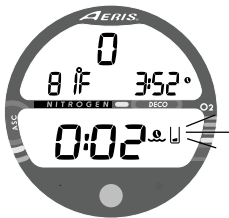

Fig. 8 - LOW BATTERY
- When 75 % of the Rated Power has been consumed, the **lower bar** of the Battery Indicator (only segment) will be displayed, and the outline of the Indicator will flash once per second (Fig. 8) as a warning that the Battery is to be replaced prior to conducting any further dives.